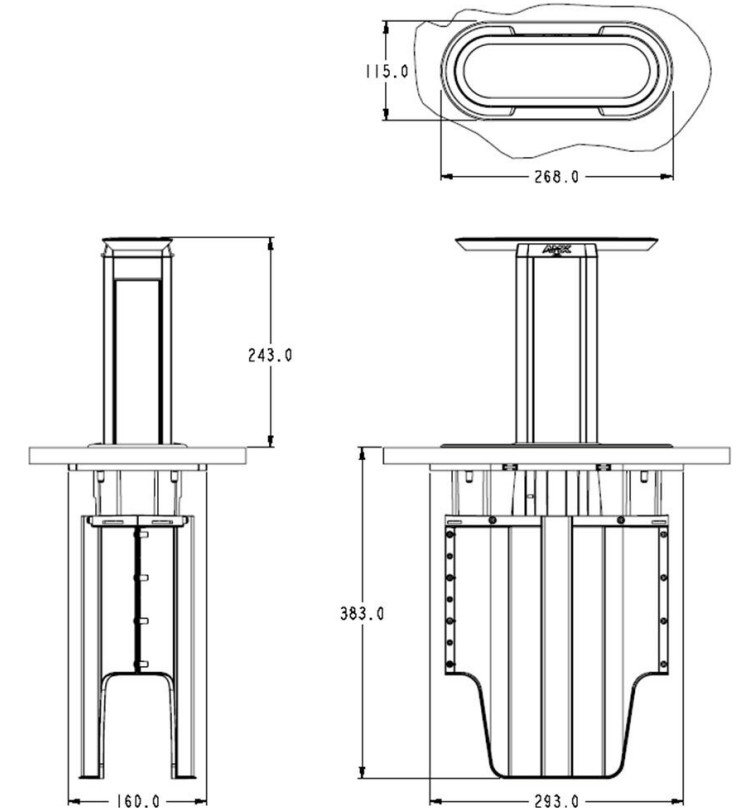

FIG. 1 HYDRAPORT SYSTEM SPACE REQUIREMENTS
Note the space requirements for installing the system (FIG. 1).
- The HydraPort system requires at least the following amount of space below the mounting surface to install (see FIG. 1):